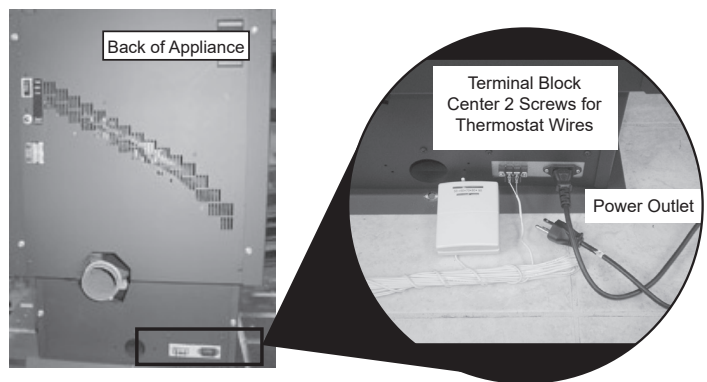

Figure 20.4
3. There is a 4 screw terminal block located on the back lower left corner of the appliance directly above the power cord inlet. The center 2 screws are for the thermostat wires (**Figure 20.4**).